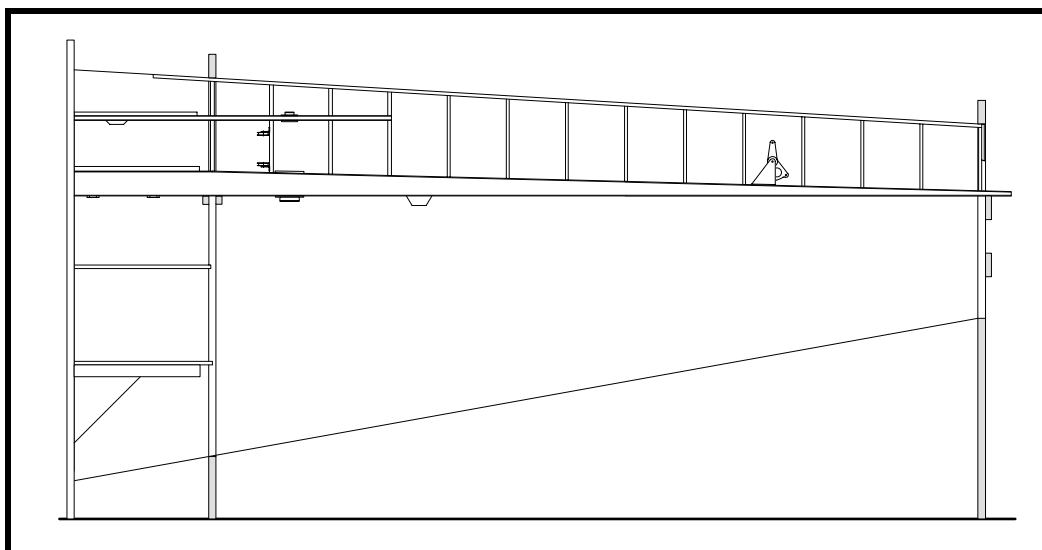

Figure 9
- ❑ Clamp the leading edge strip in place as shown in Figure 9. Sand the ribs as necessary to match the angle of the leading edge strip. During this and later operations, you will find it helpful to clamp a long board along the top or bottom of the wing to stabilize the ribs and to keep them from racking over—remember “top” or “bottom” refers to the top or bottom of the wing in its normal position in the aircraft, *not* in the jig.